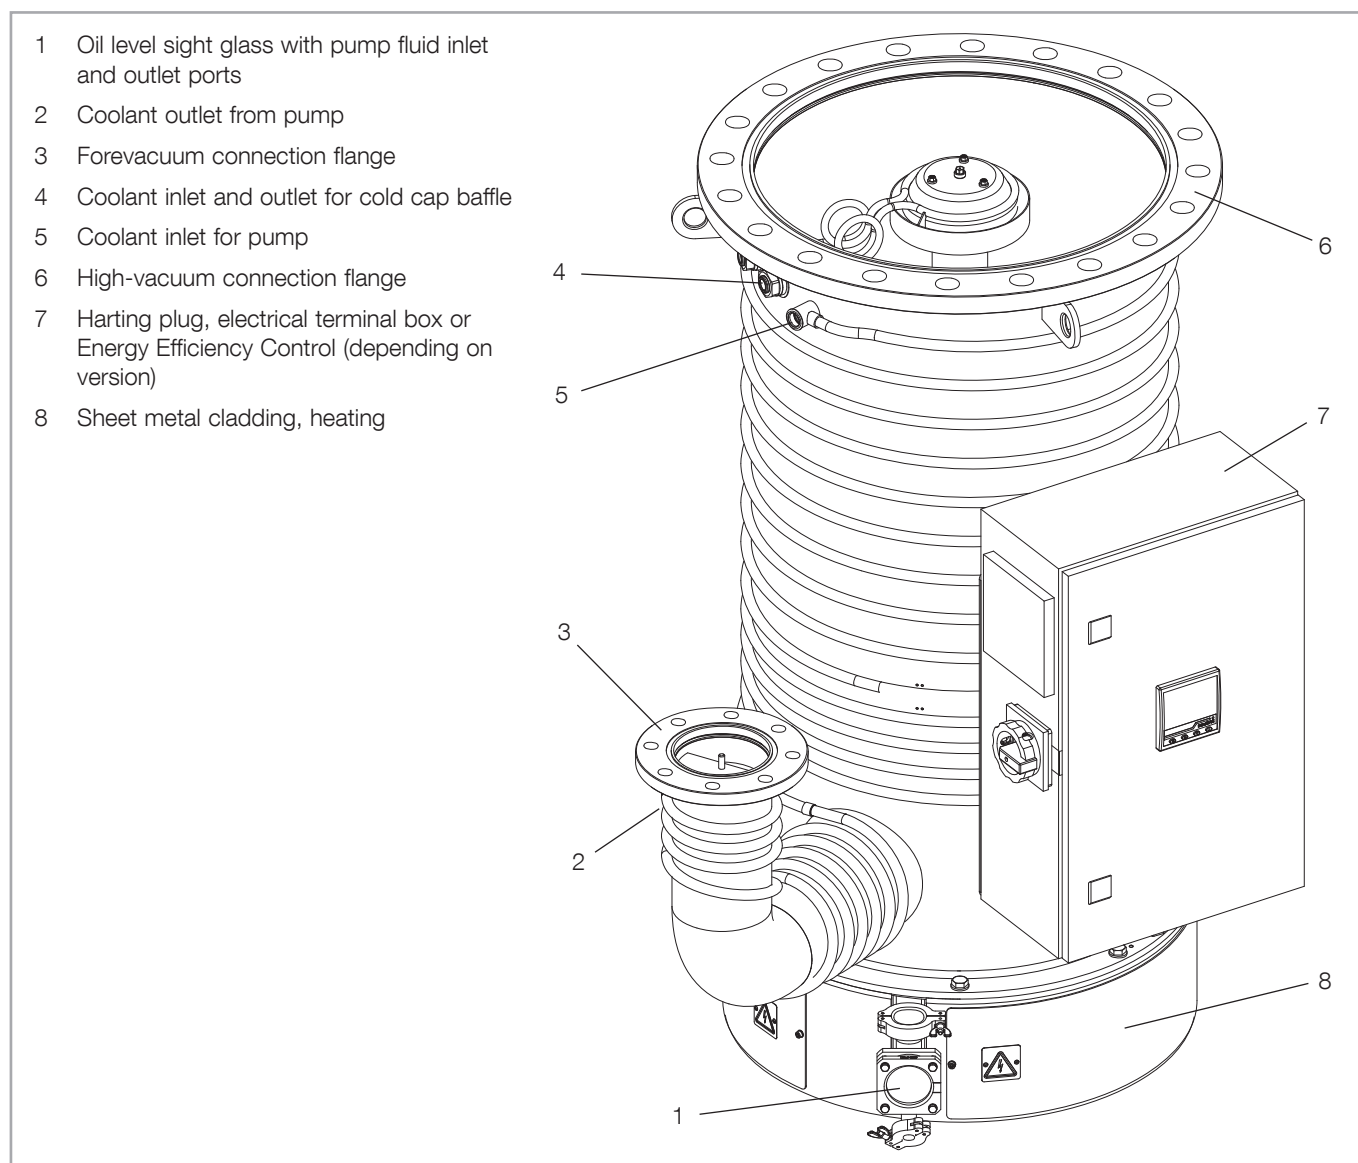

Fig. 7 Connection elements
- 1. Cold cap baffle: coolant inlet and outlet (cf. Fig. 7)